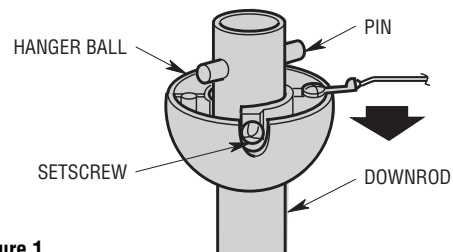

Figure 1
3. Obtain the hanger ball/downrod assembly and remove the hanger ball by loosening the setscrew in the hanger ball until the ball falls freely down the downrod (Figure 1). Remove the pin from the downrod, then remove the hanger ball. Retain the pin and hanger ball for reinstallation in Step 6.